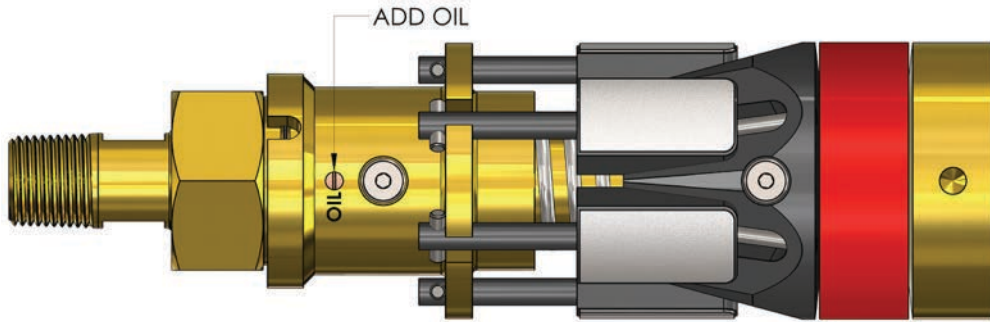

Figure 4: Adding Oil to the ORB Spring Plate’s Oil Hole
- 5.1 Before use, add 3-4 drops of mineral oil into the hole labeled “OIL” on the **ORB Spring Plate’s(3)**, see Figure 4.